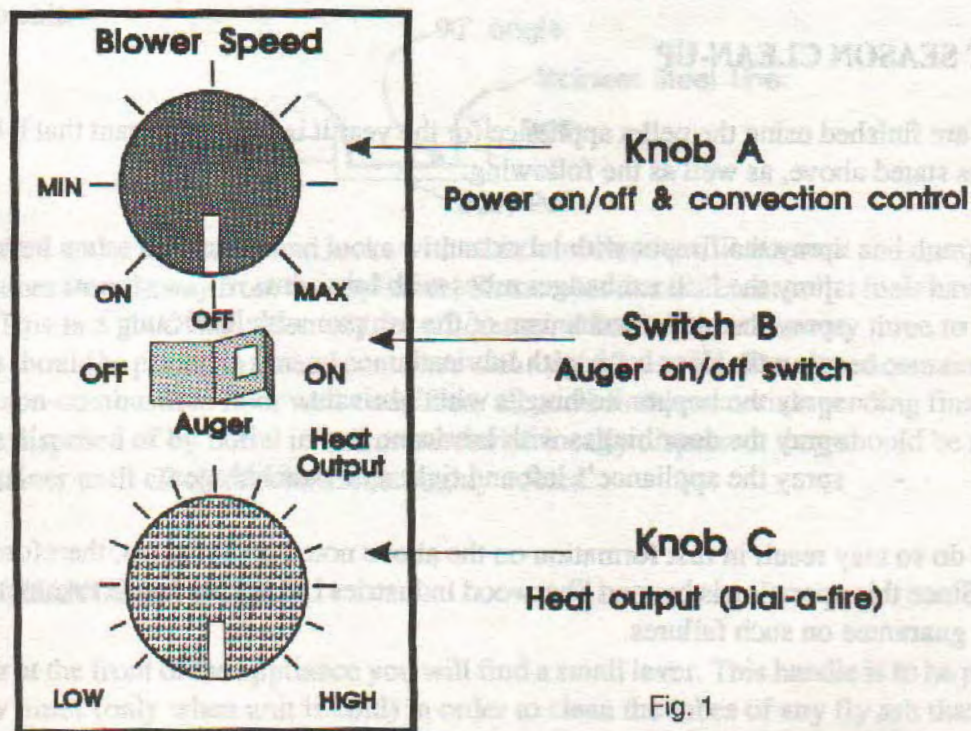

Fig. 1
3. Switch on the power by turning knob "A" clockwise past the "click". Note that after the click the knob now controls the speed of the convection blower, with "high" being fully clockwise. See Figure 1.
Push switch "B" to the left (the light indicator will stop flashing). This will turn off the pellet feed. The blowers will keep on running for the next 30 to 35 minutes to cool the stove body down and will automatically shut off. (Remember to restart the unit you must turn switch "A" counterclockwise (off) and then clockwise (on). See Figure 1.